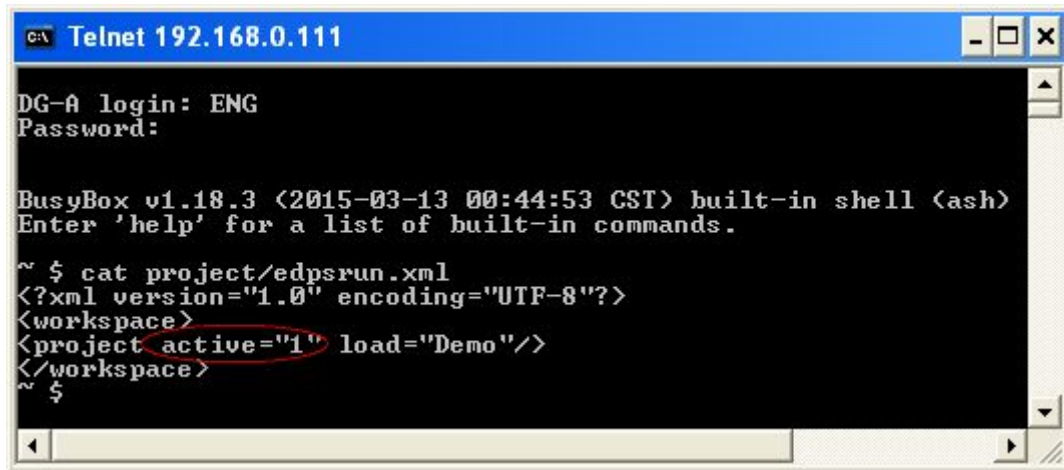

Figure 6.3 Currently running project interface
- Input "cat project/edpsrun.xml" and press "Enter" to view running projects as shown in Figure 6.3